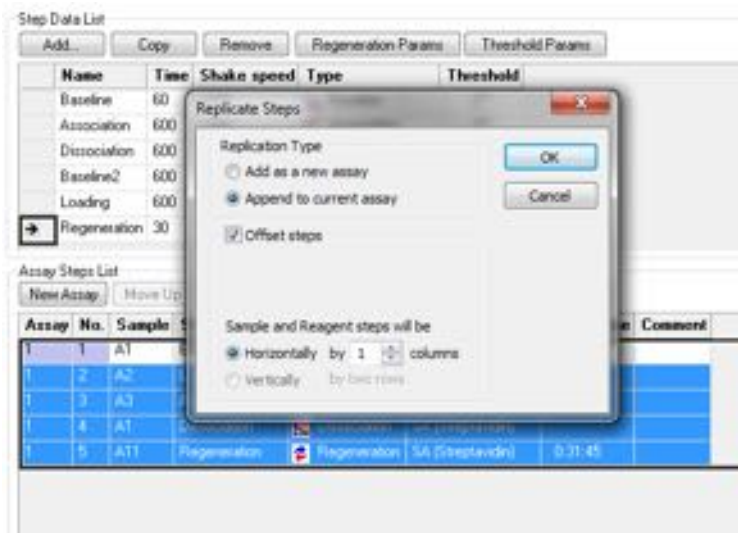

Figure 8-38: Replicating Assay Steps by Appending
- In the **Assay Steps List**, select the step(s) to copy and click **Replicate** (for example, in Figure 8-38, step rows 1–4 are selected).
- In the **Replicate Steps** dialog box (see Figure 8-38):